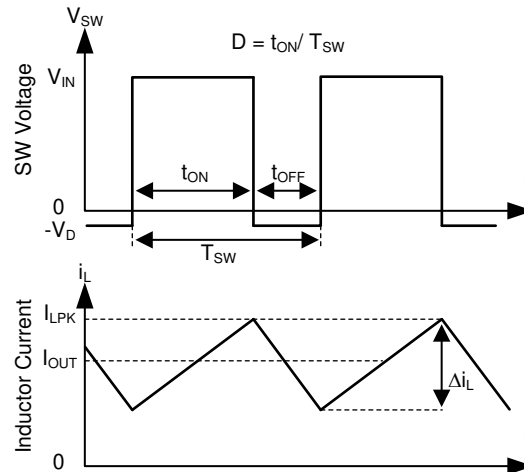

Figure 10-1. SW Node and Inductor Current Waveforms in Continuous Conduction Mode (CCM)
The following operating description of the TPS25830-Q1, TPS25831-Q1 will refer to the *Functional Block Diagram* and to the waveforms in Figure 10-1. TPS2583x-Q1 is a step-down synchronous buck regulator with integrated high-side (HS) and low-side (LS) switches (synchronous rectifier). The TPS2583x-Q1 supplies a regulated output voltage by turning on the HS and LS NMOS switches with controlled duty cycle. During high-side switch ON time, the SW pin voltage swings up to approximately V_{IN} , and the inductor current i_L increase with linear slope $(V_{IN} - V_{OUT}) / L$. When the HS switch is turned off by the control logic, the LS switch is turned on after an anti-shoot-through dead time. Inductor current discharges through the LS switch with a slope of $-V_{OUT} / L$. The control parameter of a buck converter is defined as Duty Cycle $D = t_{ON} / T_{SW}$, where t_{ON} is the high-side switch ON time and T_{SW} is the switching period. The regulator control loop maintains a constant output voltage by adjusting the duty cycle D . In an ideal buck converter, where losses are ignored, D is proportional to the output voltage and inversely proportional to the input voltage: $D = V_{OUT} / V_{IN}$.